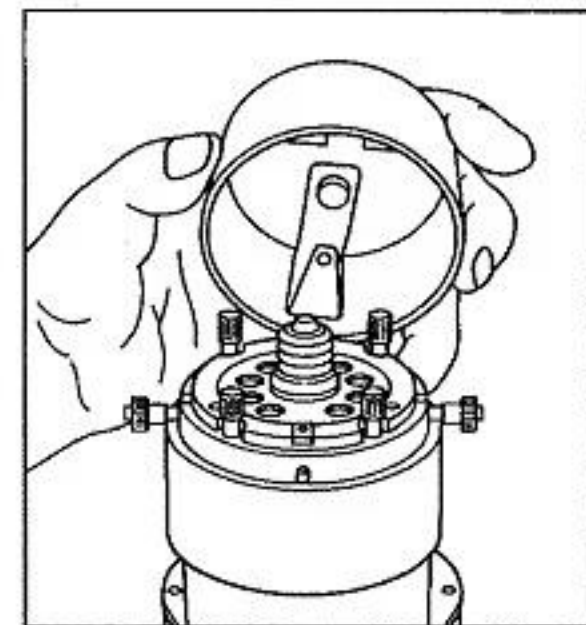

Fig. 34: Removing
- 2) Remove the lamp housing cover. (Fig. 34(1)).